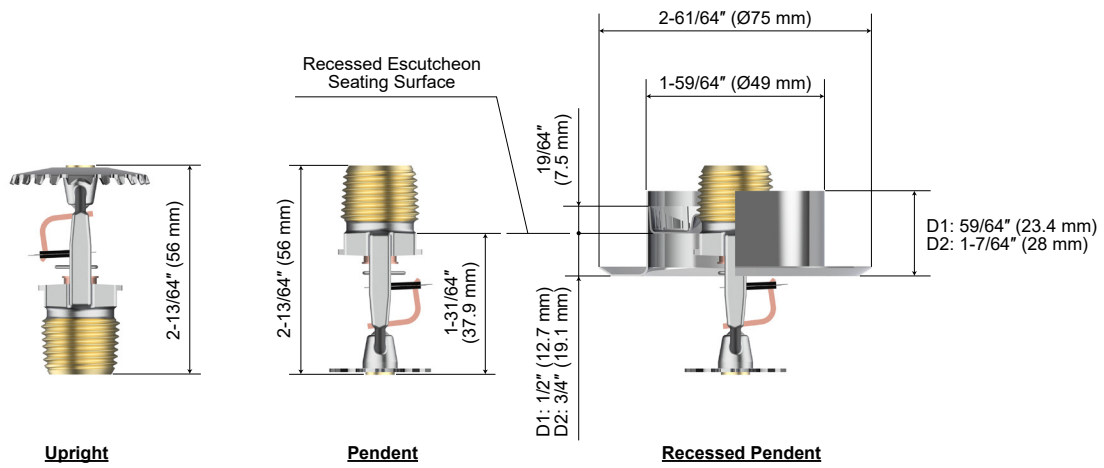

Figure 3: Upright, Pendent and Recessed Pendent Sprinklers
Step 1: Install Upright sprinklers in the upright position. Install Pendent sprinklers in the pendent position. (Ref. Figures 3 and 4)
Step 1: Install the Inner Ring of the D1 or D2 Recessed Escutcheon over the sprinkler threads. (Ref. Figures 3 and 4)